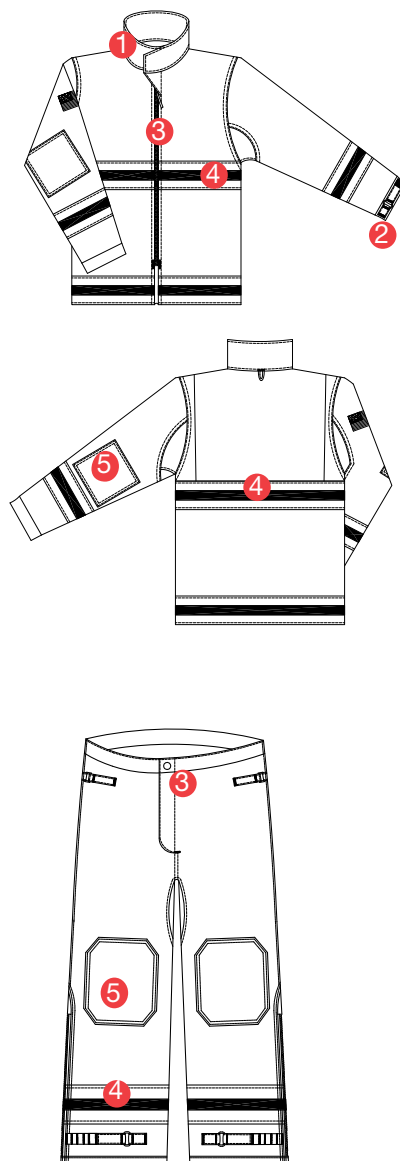

FIG. 2
5.5 OTHER IMPORTANT SAFETY FEATURES (FIG. 2)